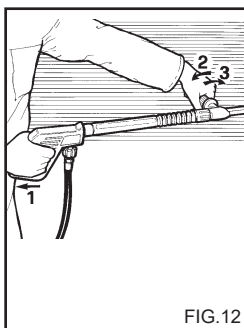
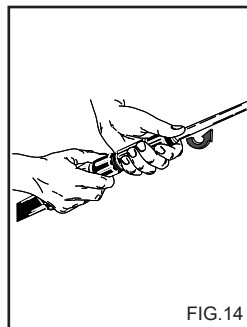

FIG.12
FIG.14
USE OF THE DOUBLE LANCE (fig. 12) (optional accessory)
2) Detach the extension from the handgrip and fit the double lance or lance with adjustable head (fig. 14). Operate the high pressure washer, activate the detergent suction control on the lance (figs. 12, 13) and spray the surface to be washed, working from the bottom upwards.